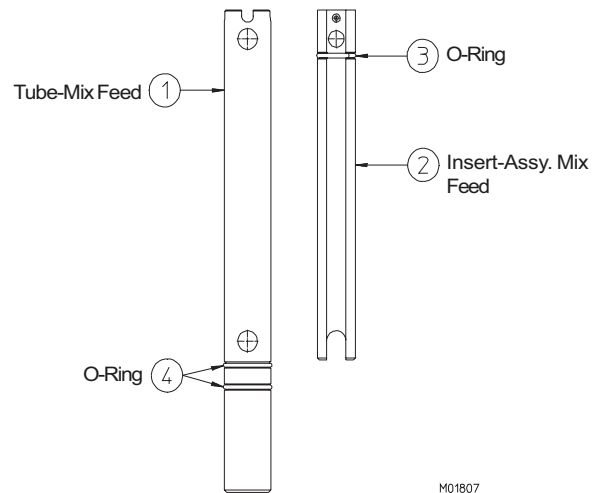

Figure 6-4 Disassemble Mix Feed Tube
9. Remove the mix feed tube from the hopper, as shown in Figure 6-4 and remove the o-rings (4).